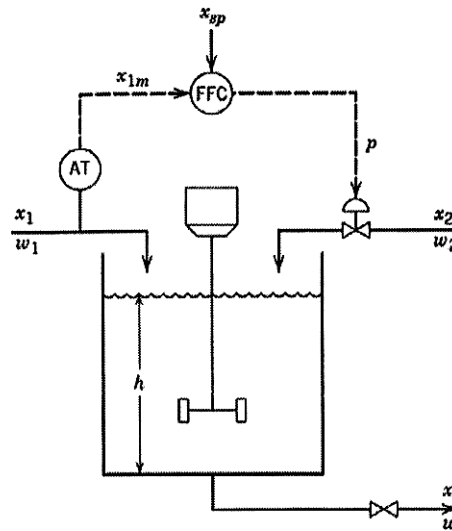

Figure Q4
- (b) Consider the blending system and feed-forward controller shown in Figure Q4. We wish to design a feed-forward control scheme to maintain exit composition x at a constant set point x_{sp} despite disturbances in inlet composition, x_1 . Derive the feed-forward control law.